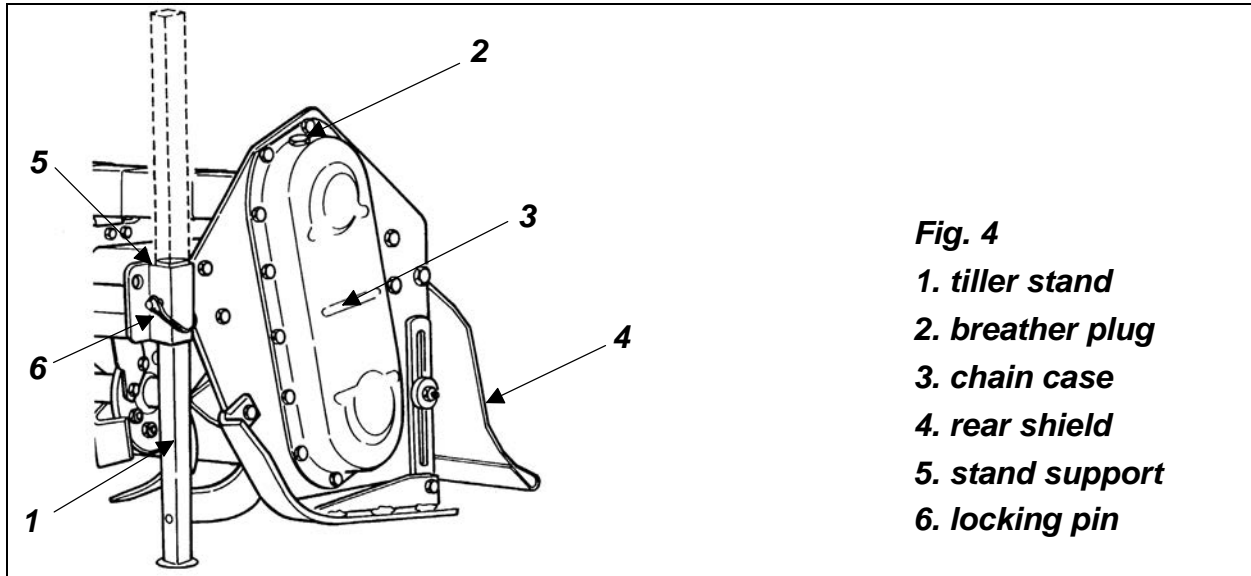

Fig. 4
1. Lower the stand to support the tiller (**see fig. 4**). Secure it in place with the locking pin.
4. Ensure the breather plug (**see #2, fig. 4**) is screwed into the chain case (**see #3, fig. 4**). Check the gearbox oil level (**see #1, fig. 5**). It should be approximately half full. If needed add SAE 90W gear oil.